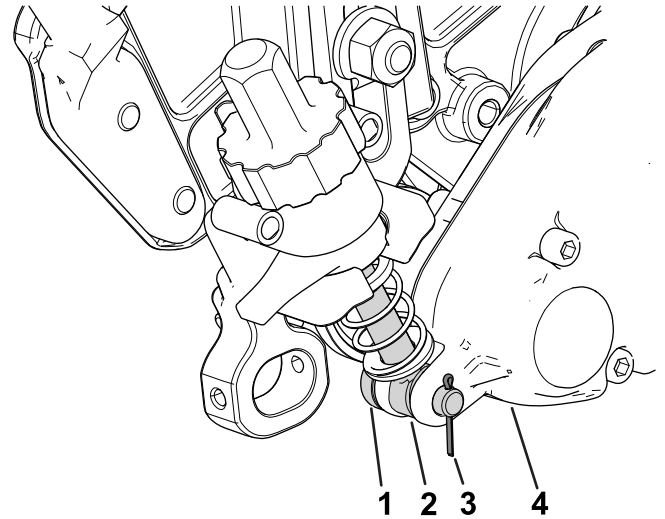

Figure 12
3. Slide the adjuster-arm assembly rod near the groomer drive box into the gap on the drive box and secure it with an adjuster pin and cotter pin (Figure 12).